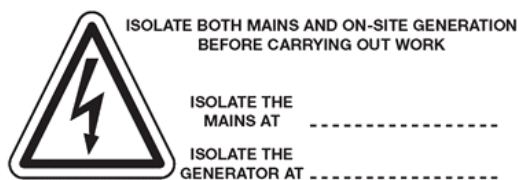

Fig. 12a
9. The installer shall provide labeling at the supply terminals (fused cut-out), meter position, consumer unit and at all points of isolation within the users premises to indicate the presence of a micro-CHP unit. An example of the warning label to be left on site is shown (Fig. 12a).